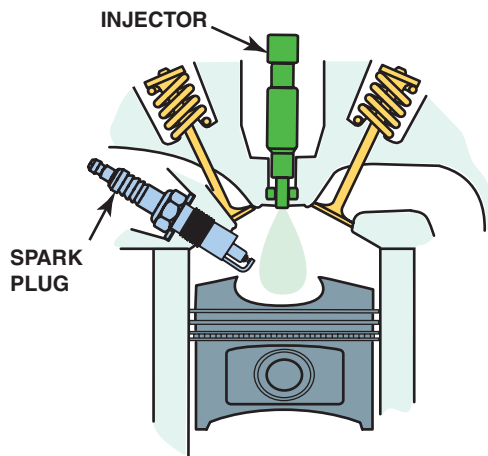

FIGURE 79-6 In this design, the fuel injector is at the top of the cylinder and sprays fuel into the cavity of the piston.
- **Spray-guided combustion.** In this design, the injector is placed in the center of the combustion chamber and injects fuel into the dished out portion of the piston. The shape of the piston helps guide and direct the mist of fuel in the combustion chamber. ● **SEE FIGURE 79-6.**